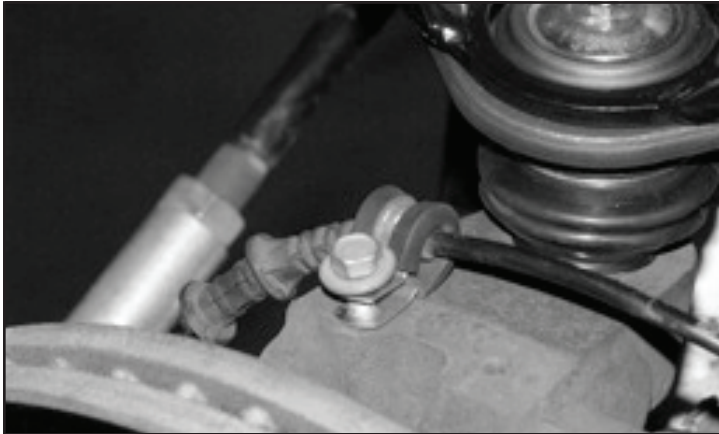

FIGURE 35 - STEP 38
38. Install the FT clamp on top of the spindle to hold the wheel speed sensor wire. **SEE FIGURE 35**